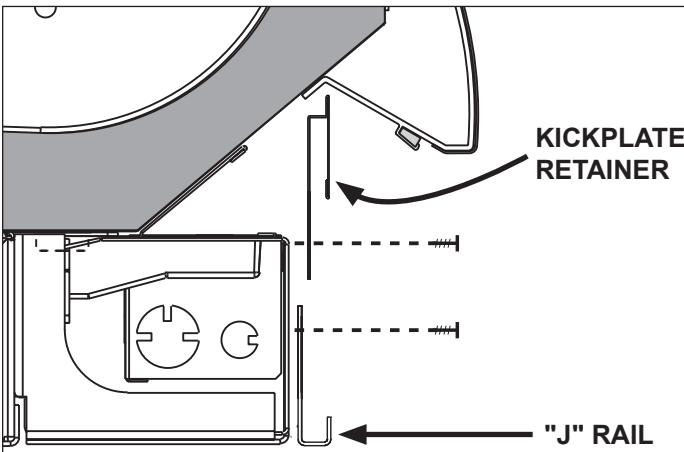

Fig. 8 "J" rail installation
11. Using the screws provided, install the upper kickplate retainer and the "J" rail, both of which are shipped loose in the case (Fig. 8). The kickplate brackets are pre-installed at the factory.